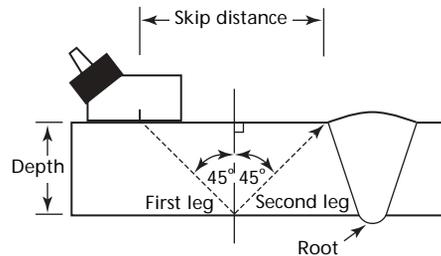

Figure 2. A 45 degree wedge and resulting sound path.
The *chain drag* technique is more commonly applied to concrete decks. As in hammer sounding, chain drag relies on the inspector's ability to recognize tone changes that occur as the chain is dragged over the surface of the concrete above a delamination. This method, effective for delaminations several inches beneath the surface of the concrete, is a subjective technique dependent on the experience and ability of the operator. Delaminations within two inches of the concrete surface are generally recognized without difficulty. The advantage of chain drag over hammer sounding is that the method can be implemented from a standing position (Fig. 2). Thus, larger areas can be covered more quickly with less inspector fatigue. Many different sizes, shapes and configurations of chain are found in the practice of this technique. A variation of chain drag incorporates a rotary impact device that produces tones as it is rolled across the concrete surface. Still another incorporates electronic recording and mechanical impact devices housed in a cart that is rolled along the surface as data is recorded.1
**Figure 2.** Chain drag technique, effective in locating delaminations within several inches of concrete surface, relies on inspector's ability to recognize tone changes.
This is typical behavior of the angle beam sound path in a piece of flat material. The next step is to determine precisely *where* the sound is going. To do this, it is necessary to know the angle of the sound beam in the part in relation to a line drawn vertically through the material thickness. This is called the *refracted angle* and is determined by the angle at which the transducer is mounted on the wedge in the transducer assembly or probe. The most commonly used search angles in contact UT work are 45, 60 and 70 degrees as referenced to steel. The refracted angle in other materials will not be the angle marked on the probe. Figure 2 illustrates a 45 degree probe.